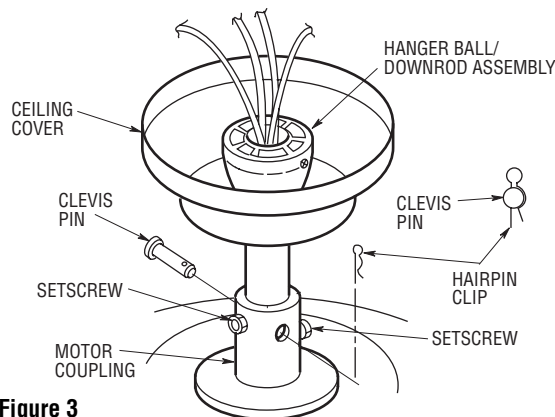

Figure 3
5. Loosen the two setscrews from the motor coupling. Align the clevis pin holes in the downrod with the holes in the motor coupling. Install the clevis pin and secure with the hairpin clip (Figure 3). The clevis pin must go through the holes in the motor coupling and the holes in the downrod. Be sure to push the straight leg of the hairpin clip through the hole near the end of the clevis pin until the curved portion of the hairpin clip snaps around the clevis pin. The hairpin clip must be properly installed to prevent the clevis pin from working loose. Pull on the hanger ball to make sure the clevis pin is properly installed.
6. While pulling up on the hanger ball, securely tighten the two setscrews in the motor coupling (Figure 3).